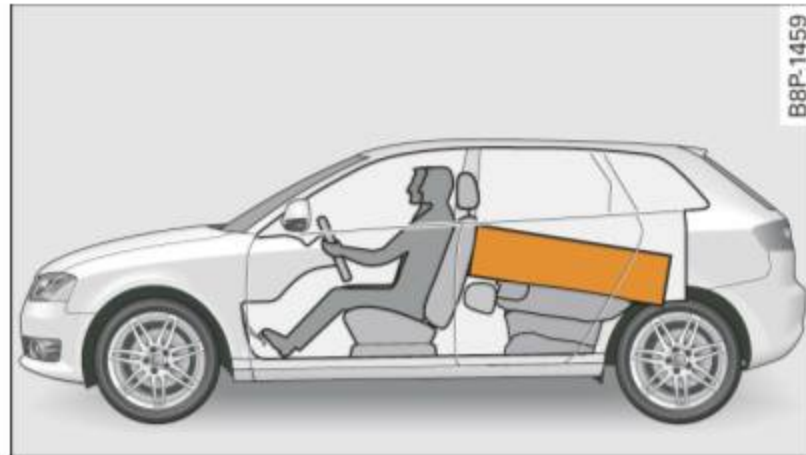

Fig. 124 Safe load positioning: heavy cargo positioned as far forward as possible.
- Always place and properly secure heavy items in the luggage compartment as far forward as possible ⇒ fig. 124.